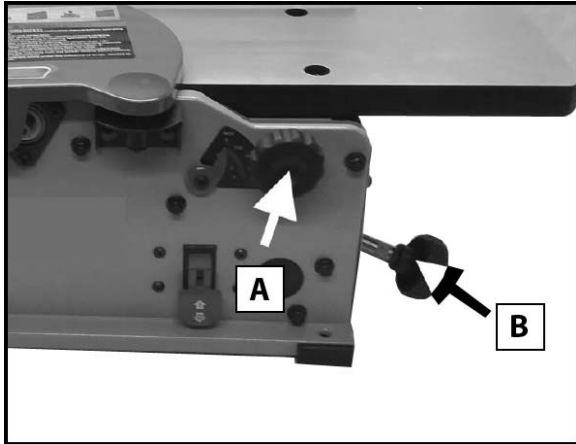

Figure 3
2. Lower the infeed table to it's lowest setting by rotating the table lock knob **(A)** counterclockwise. Then loosen and rotate the infeed table lower/raise knob **(B)** clockwise to lower the table. **See Figure 3**.